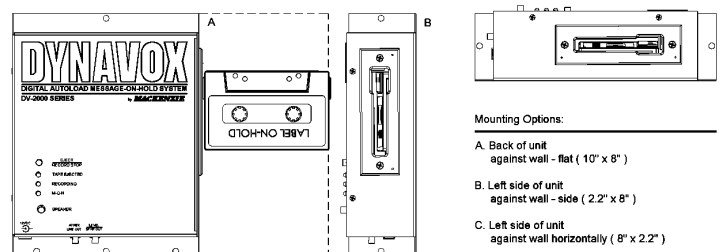

Figure 1
1. Locate a proper space on the telephone equipment board or wall (see Figure 1). You can mount the DV-2000 in one of three positions: flat, side, or horizontal. See illustration below.